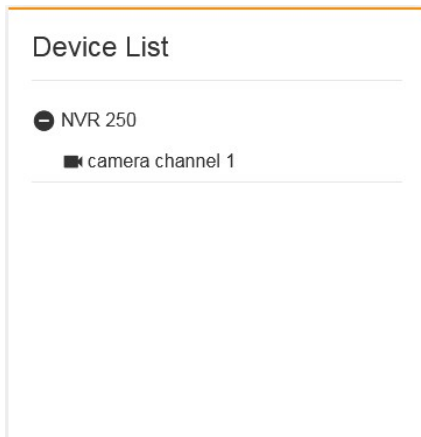

Figure 14-14 Device list
1. Choose **Video > Real Time Video** . The **Real Time Video** page is displayed. The left side of the page displays the video device tree, on which the nodes are NVR devices and sub-nodes are IPC devices in the IP channel, as shown in Figure 14-14.